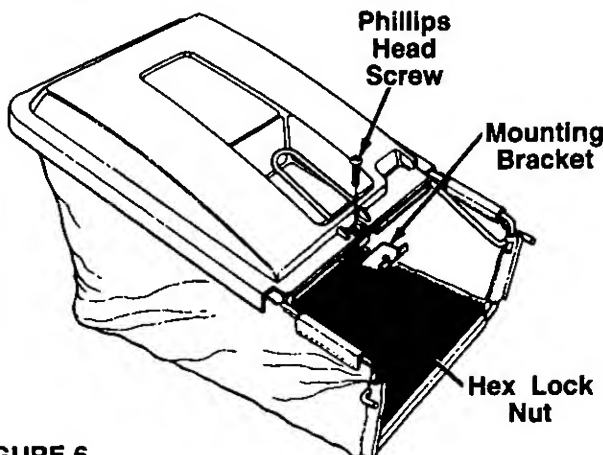

FIGURE 6.
7. Place the mounting bracket under the front of the handle, with the tabs on the bracket facing up. Insert phillips head screw down through the hardtop cover and mounting bracket. Secure with hex lock nut. See figure 6.